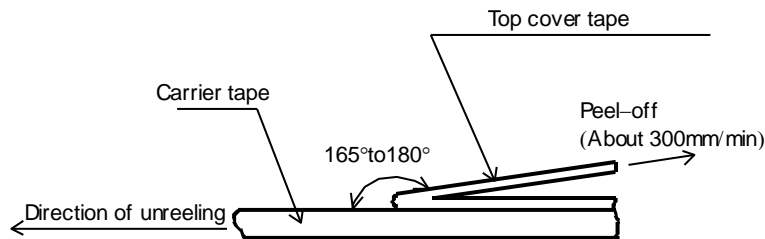
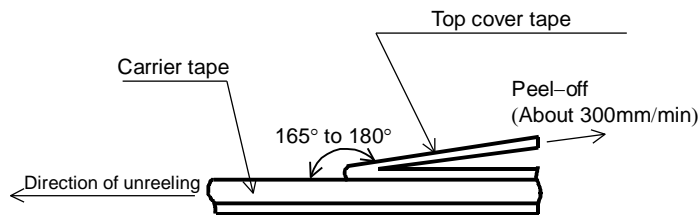

Figure-5
Figure-6
- 5). The peel strength of the top cover tape shall be within 0.1N to 0.5N on the test method as shown in the following FCC10, FHC10: Figure-5, FCC16,20,32, FHC16,20,32 : Figure-6.